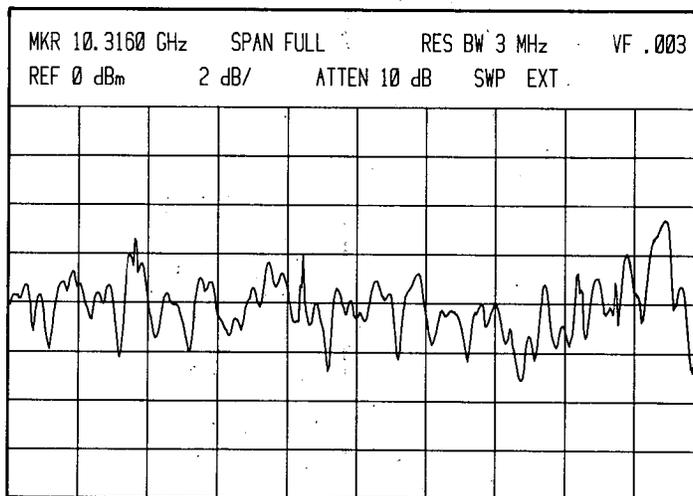

Figure 5-48. Phase Locked Spectrum Analyzer CRT Display (10.5–18 GHz)
11. Adjust A20R105 V6 over full range and note position for minimum ripple on CRT trace. Set A20R105 V6 for minimum ripple (see Figure 5-48).